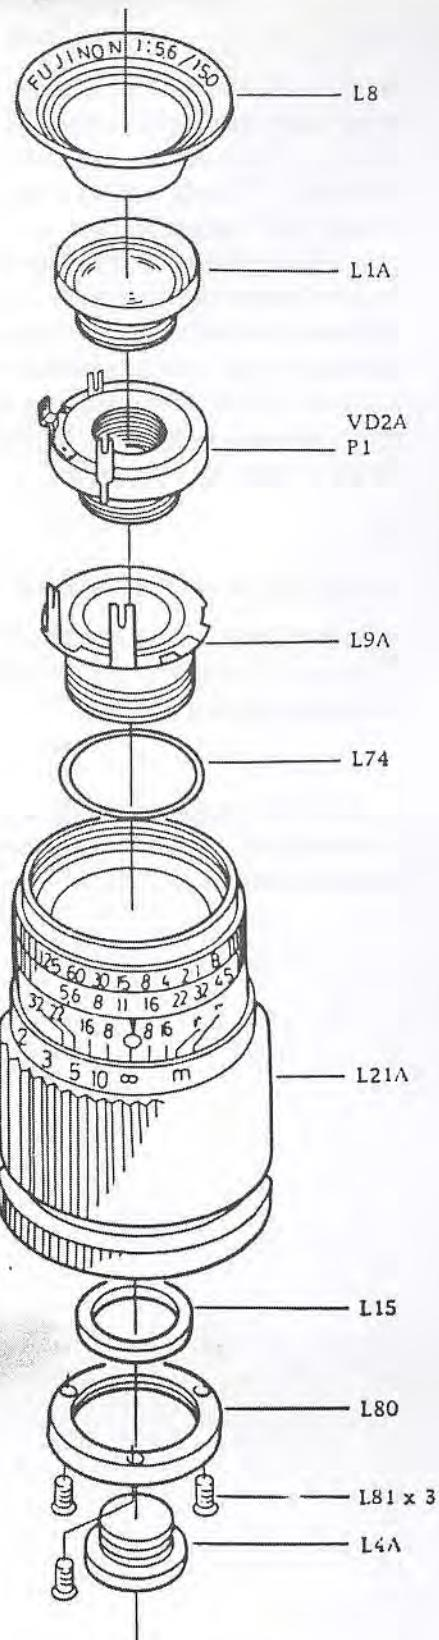

Fig. 1
- A. Remove the lens plate (L8) with the Tool (L3-TA1). Fig. 1
- B. Remove the front lens group (L1A) with the Tool (L1-TA1) and rear lens group (L4A) with Tool (L4-TA1). Fig. 1
- D. Remove the shutter fastening ring (L-15) with the Tool (L11-TA1), and remove the shutter from the lens barrel carefully so that the shutter speed lever (L19) is not damaged. Fig. 1
- A. Remove the ring installation screws (L81, 3 each), and remove the ring (L80), adjust washer (L74), and shutter installation seat (L6A) from the lens barrel. Fig. 1